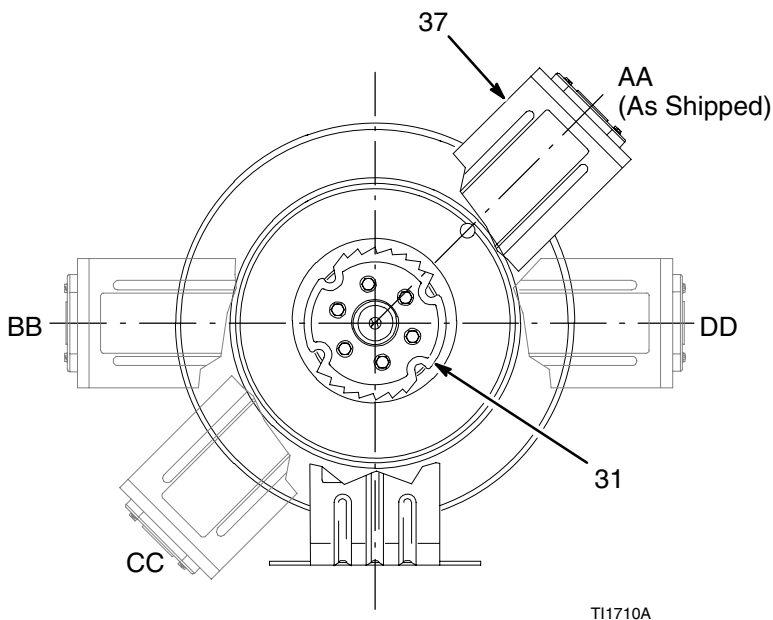

Fig. 4
2. Determine the desired position of the roller support arm (37)
- The hose reel is factory-assembled and shipped with the roller support arm (37) in position AA. If position AA, BB, CC, or DD is desired, continue with step 3. See Fig. 4.